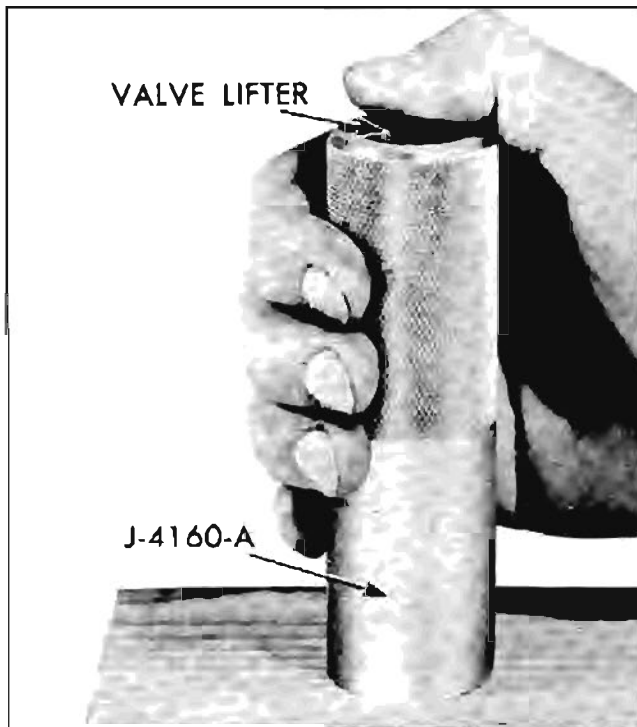

Fig. 6-22 Removing Stuck Plunger
2. Invert lifter and allow push rod seat and plunger to slide out of body. If plunger sticks in body, place lifter in large end of Hydraulic Valve Lifter Plunger Remover, J-4160-A, with push rod end of lifter downward. Hold tool firmly in hand with thumb over lifter body and sharply strike tool against a block of wood (Fig. 6-22) until plunger falls out.